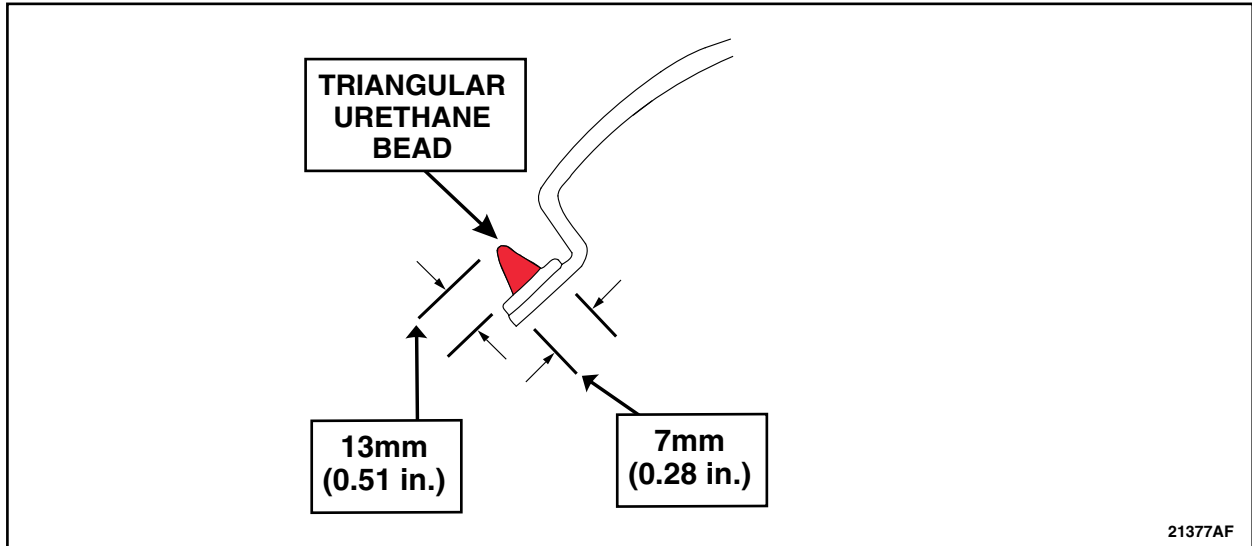

FIGURE 5
5. Using a mechanical or power caulk gun, apply some SikaTack® (MACH 60/MACH 30) or Dow® BETASEAL™ Express urethane in a triangular bead 7mm (0.28 in) wide by 13mm (0.51 in) high in the center the primed surface of the *new* hard top rear cap assembly quarter window glass flanges and overlap the bead along front edge of *new* hard top rear cap assembly quarter window glass flanges. The position of the urethane bead should be 14mm (0.55 in) from the outer edge of the *new* hard top rear cap assembly flange to the bead. See Figures. See Figures 5 and 6.